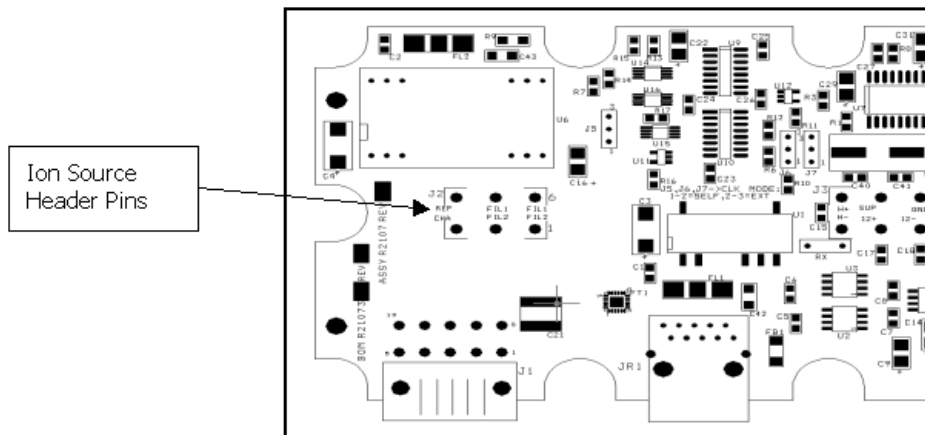

Figure B-73 Ion Source Header Pin Schematic
26. On the PCB, use the resistance meter to verify an open circuit between any two of the six ion source header pins (except FIL-1 to FIL-1 and FIL-2 to FIL-2 which should be 0.3 Ohms or less). Also verify an open circuit between the body of the spectrometer and any of the ion source header pins (Figure B-73). If there is continuity (short circuit) at any of the points, remove the header and inspect for shorting.